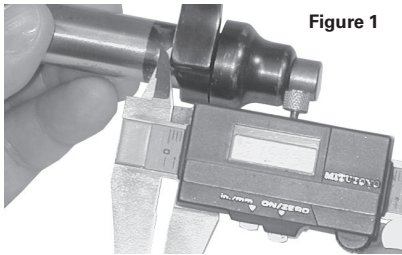

Figure 1
1. Measure .150" (3.8mm) from the top of the bolt handle forward, and draw a line around the circumference of the bolt at this spot using a permanent ink pen. This line will be used to properly align the rear shims so they fully contact the rear of the receiver. (See Figure 1).